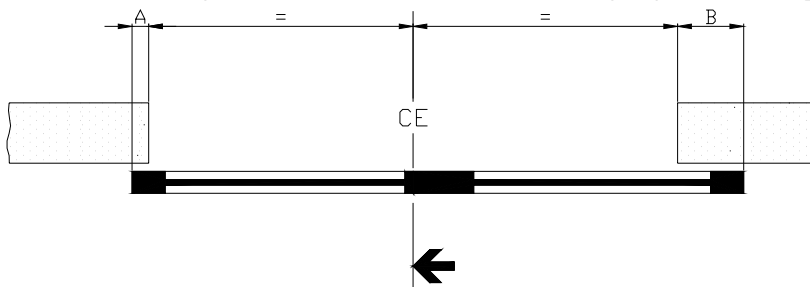

Figure 3.14
1 . Push the sliding wings(24) until distances A and B are the same. If adjusting is insufficient , check the belt lengths or dimension C. See the drawing Figure 3.14 in appendix.